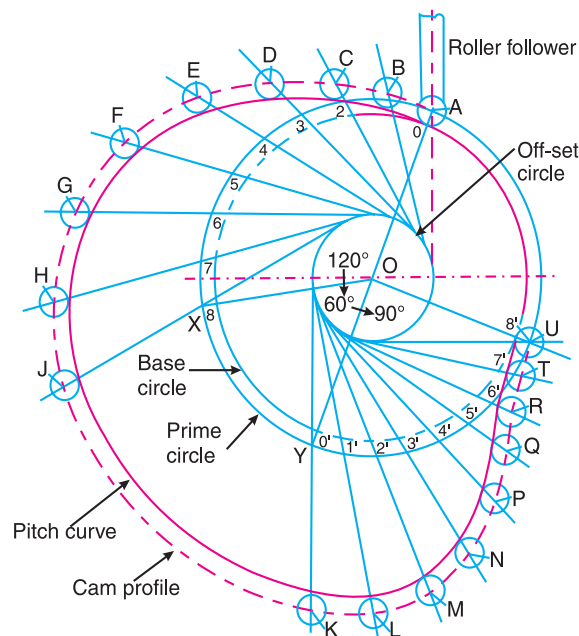

Fig. 20.30
Now, the profile of the cam, as shown in Fig. 20.30, is drawn as discussed in the following steps :
4. Divide the angular displacements of the cam during out stroke and return stroke into eight equal parts as shown by points 0, 1, 2 . . . and $0', 1', 2' . . .$ etc. on the prime circle in Fig. 20.30.
9. Join the bottoms of these circles with a smooth curve to obtain the profile of the cam as shown in Fig. 20.30.